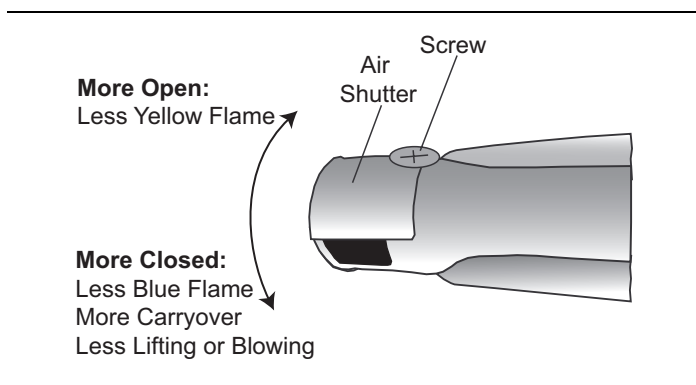

Figure 14: Air Shutter Adjustment (if necessary)
Tube-style gas burners used in Thermador appliances have air shutter systems which are similar to the illustration in Figure 14, and can be adjusted using the following method (unless adjustment is not recommended). It is necessary to remove the burner from the appliance in order to perform air-shutter adjustments.
- Adjust the shutter to more-open position if the flame is too yellow. (See Figure 14.)